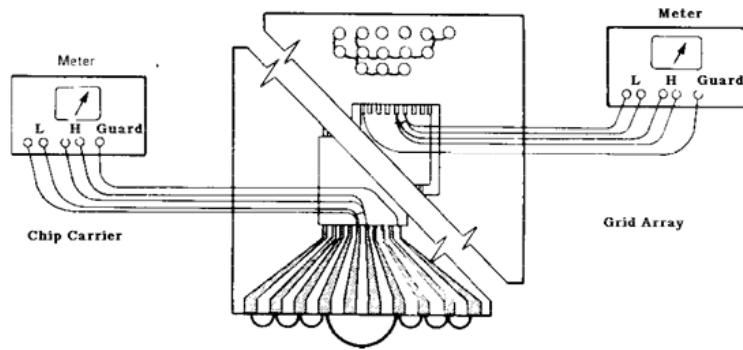

Figure 1
4 Procedure: Lead-to-Lead Capacitance (Refer to Figure 1)
4.2 Connect together all the pins in close proximity to those being measured, for multilayer ceramic package pins should be chosen to connect all traces adjacent to traces being measured. Example: Eight surrounding pins are connected for the 68 lead pin grid; twelve surrounding pins are connected together for the 124 pin grid; eight surrounding pins are connected together for all flat packs (refer to Figure 1). If there are power planes and/or large power buses in the package, their pins must be connected together with the eight or 12 surrounding pins discussed above.